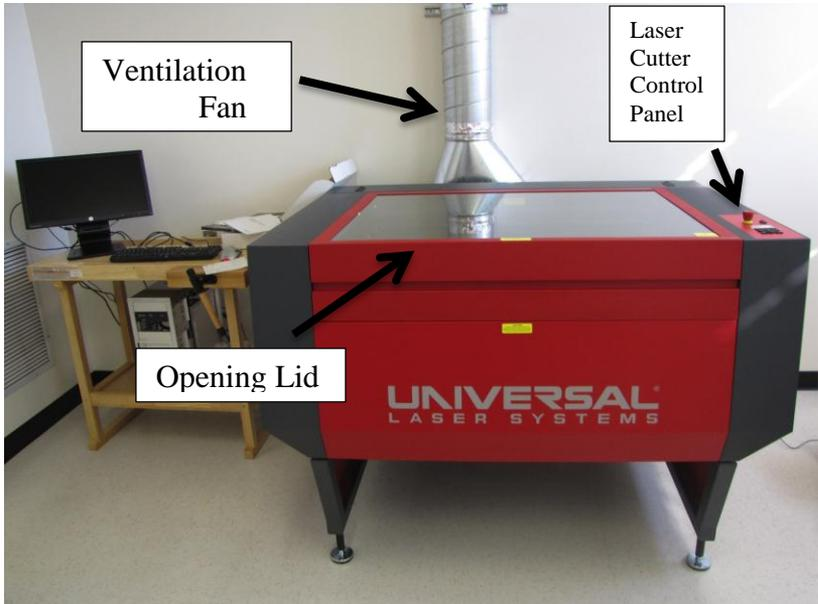

Figure 1: Universal Laser Cutter
8. Open the machine cover **GENTLY**. **DO NOT LET IT SLAM** as it opens (Figure 1,10).